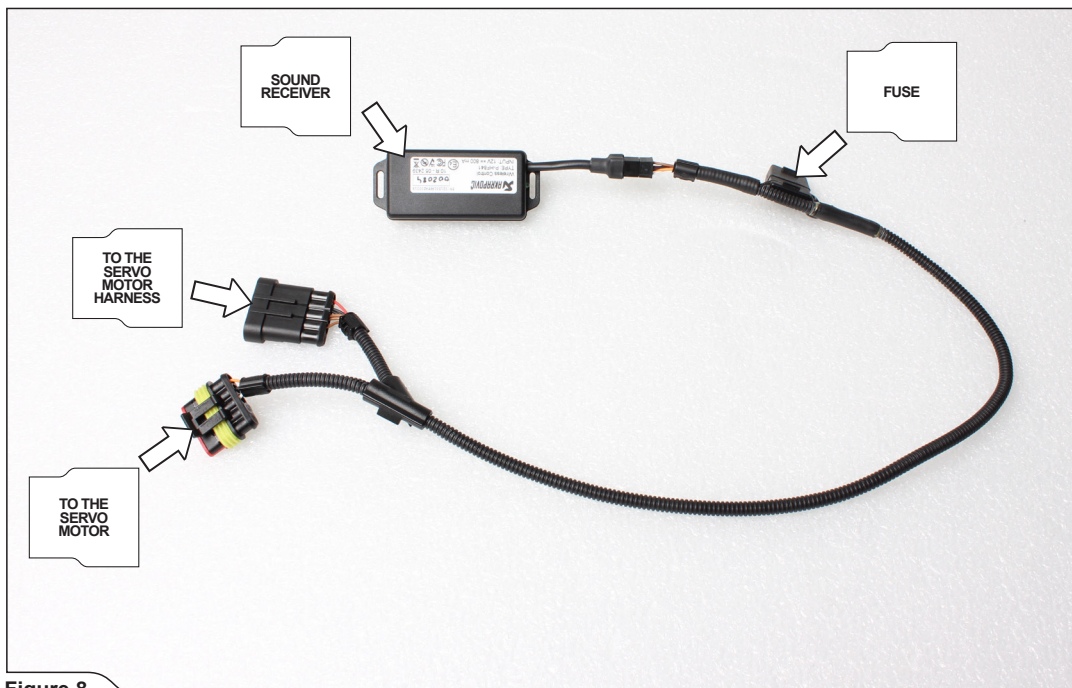

Figure 8
8. To remove the exhaust valve cable from the valve, first do the following (Figure 8, 9):